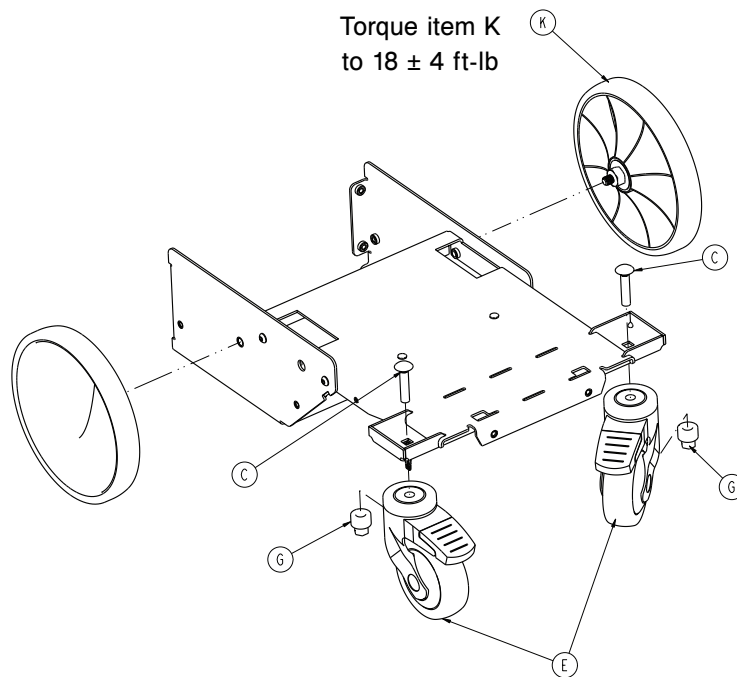

Figure 13 – Front wheels
5. Slightly tip the product and place a 2" x 4" board under the front corner of the frame on the side where you are replacing the front wheel (Figure 13).